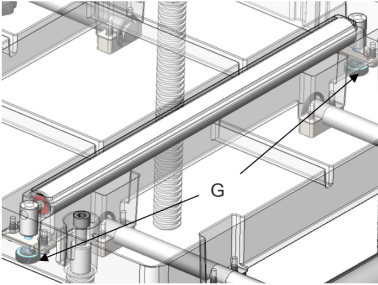

FIGURE 4: TABLE ROLLER
3. Table Roller adjustment: Turn the knobs (Fig. 4, G) to move the table roller up or down to the desired position. **NOTICE!** The roller is typically set higher when planing rough stock. When planing smooth stock, the roller should be set slightly above, or flush with the table.